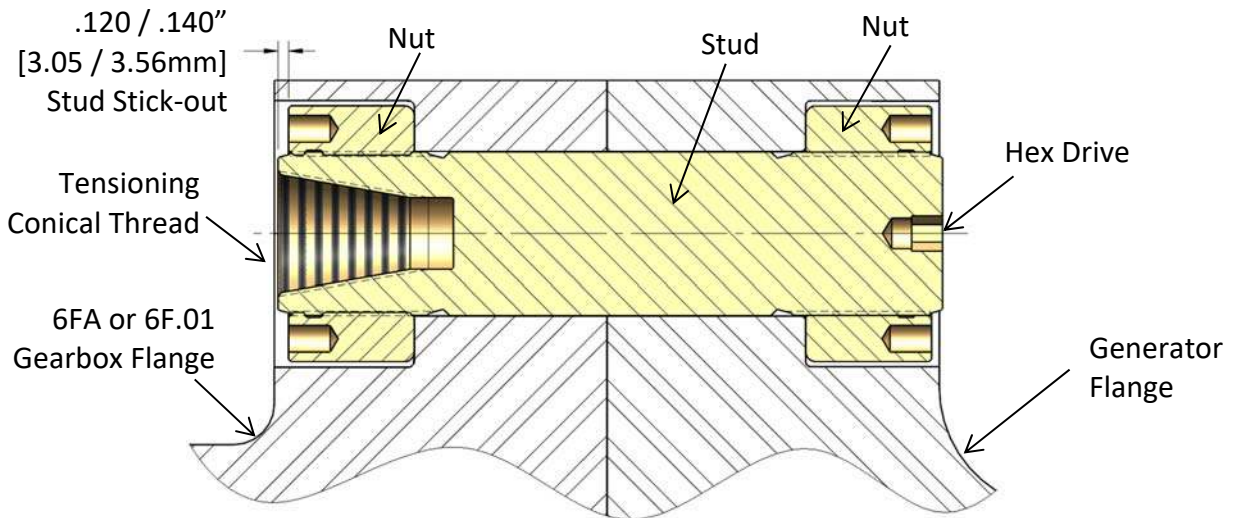

Figure 6A – Cross-section View of 6FA, 6F.03, or 6F.01 Gearbox to Generator Bolted Flange Connection
2. Slide the stud and cylindrical nut assembly into the flange as shown in Figures 6A, 6B, and 6C.